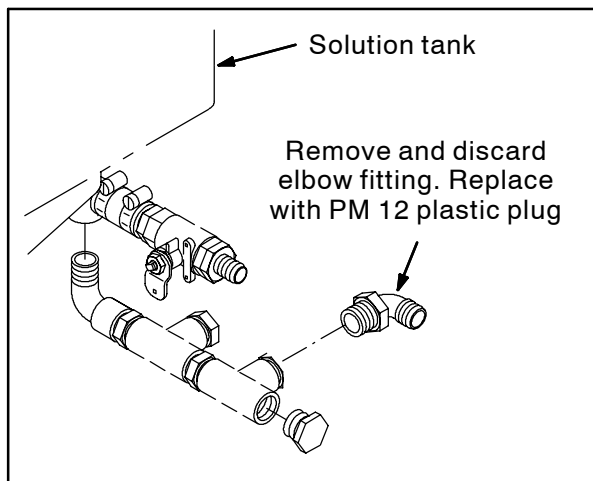

FIG. 2
32. Use isopropyl alcohol to clean the surfaces where labels will be installed onto the machine. Install the labels onto the machine. Refer to **Fig. 2 - Switch and Label Group** for label locations.
2. **ES Machines Only:** Remove the elbow fitting from the solution supply assembly. Install a PM12 plastic plug where elbow fitting was previously located. Discard the elbow fitting. Refer to Fig. 2.